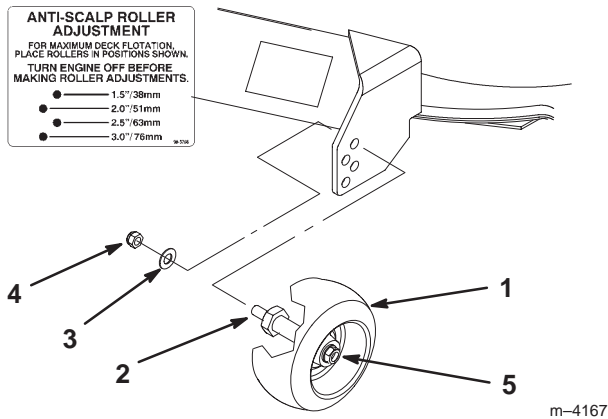

Figure 11
2. After adjusting the height-of-cut, remove the nut and washer while holding the stud with a wrench (Fig. 11).
Note: Do not remove the wheel nut and washer (Fig. 11).
3. Select a hole so that the gage wheel is positioned to the nearest corresponding height-of-cut desired (Fig. 11).
4. Install the stud nut and washer (Fig. 11).